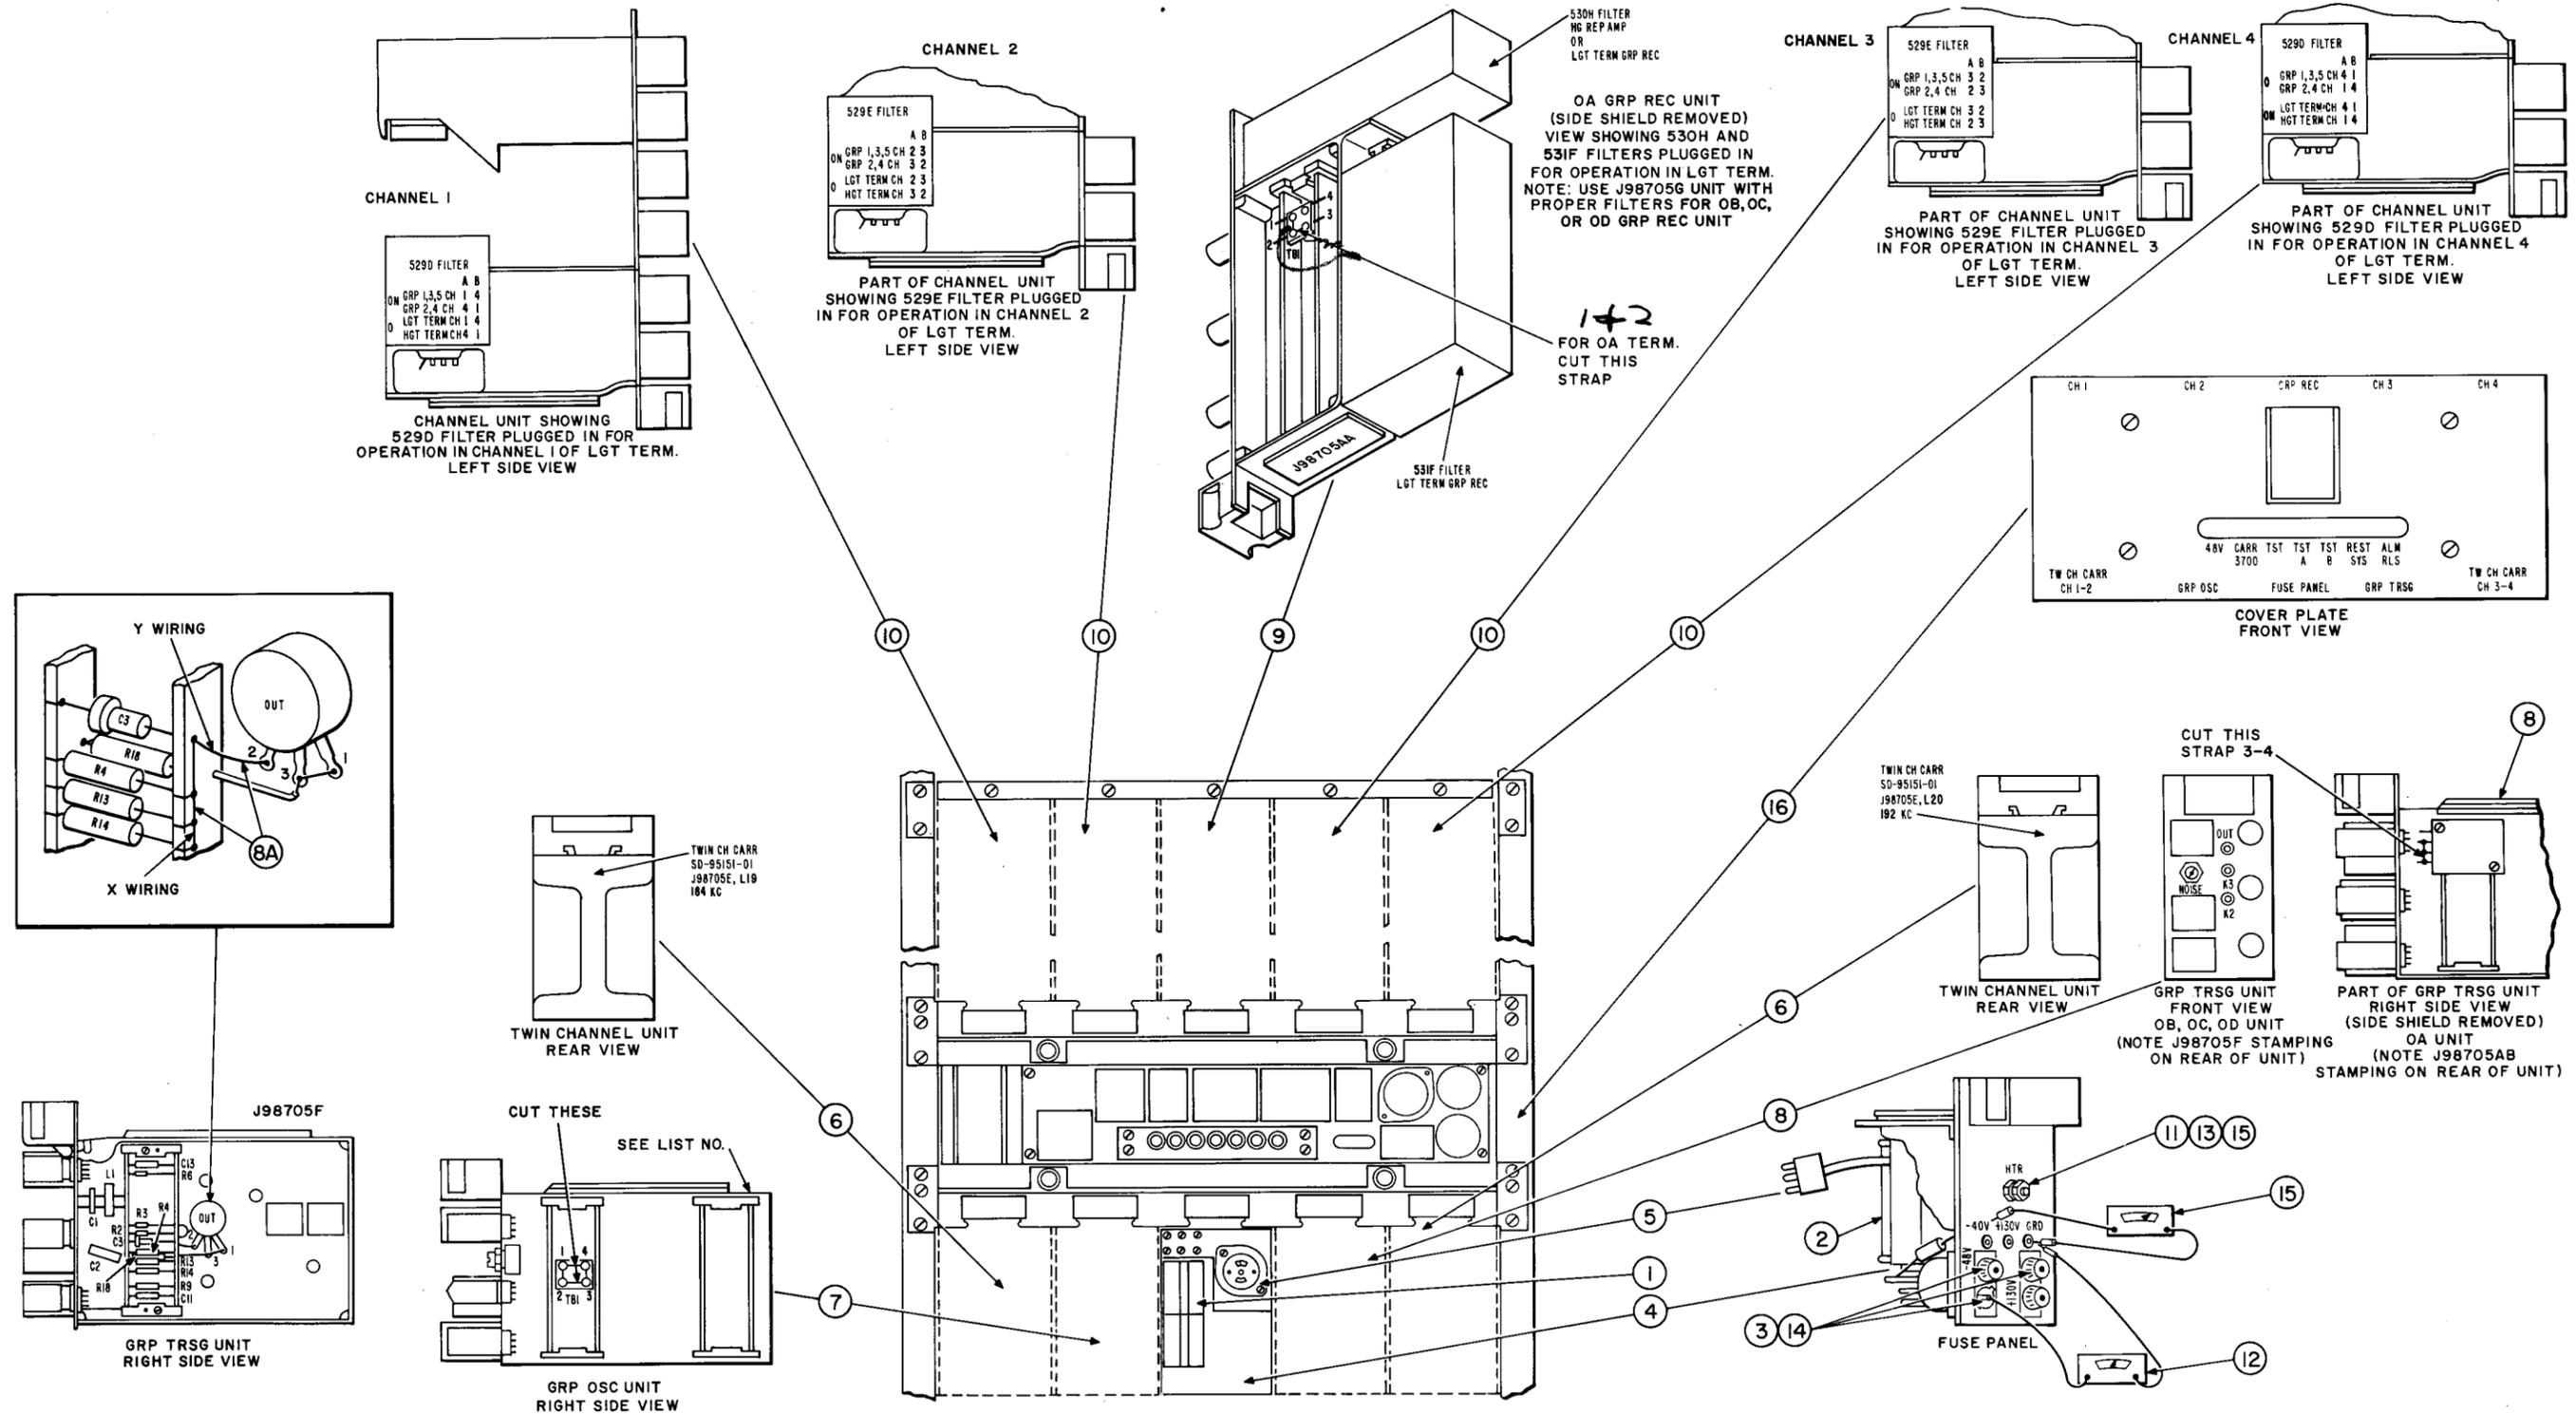
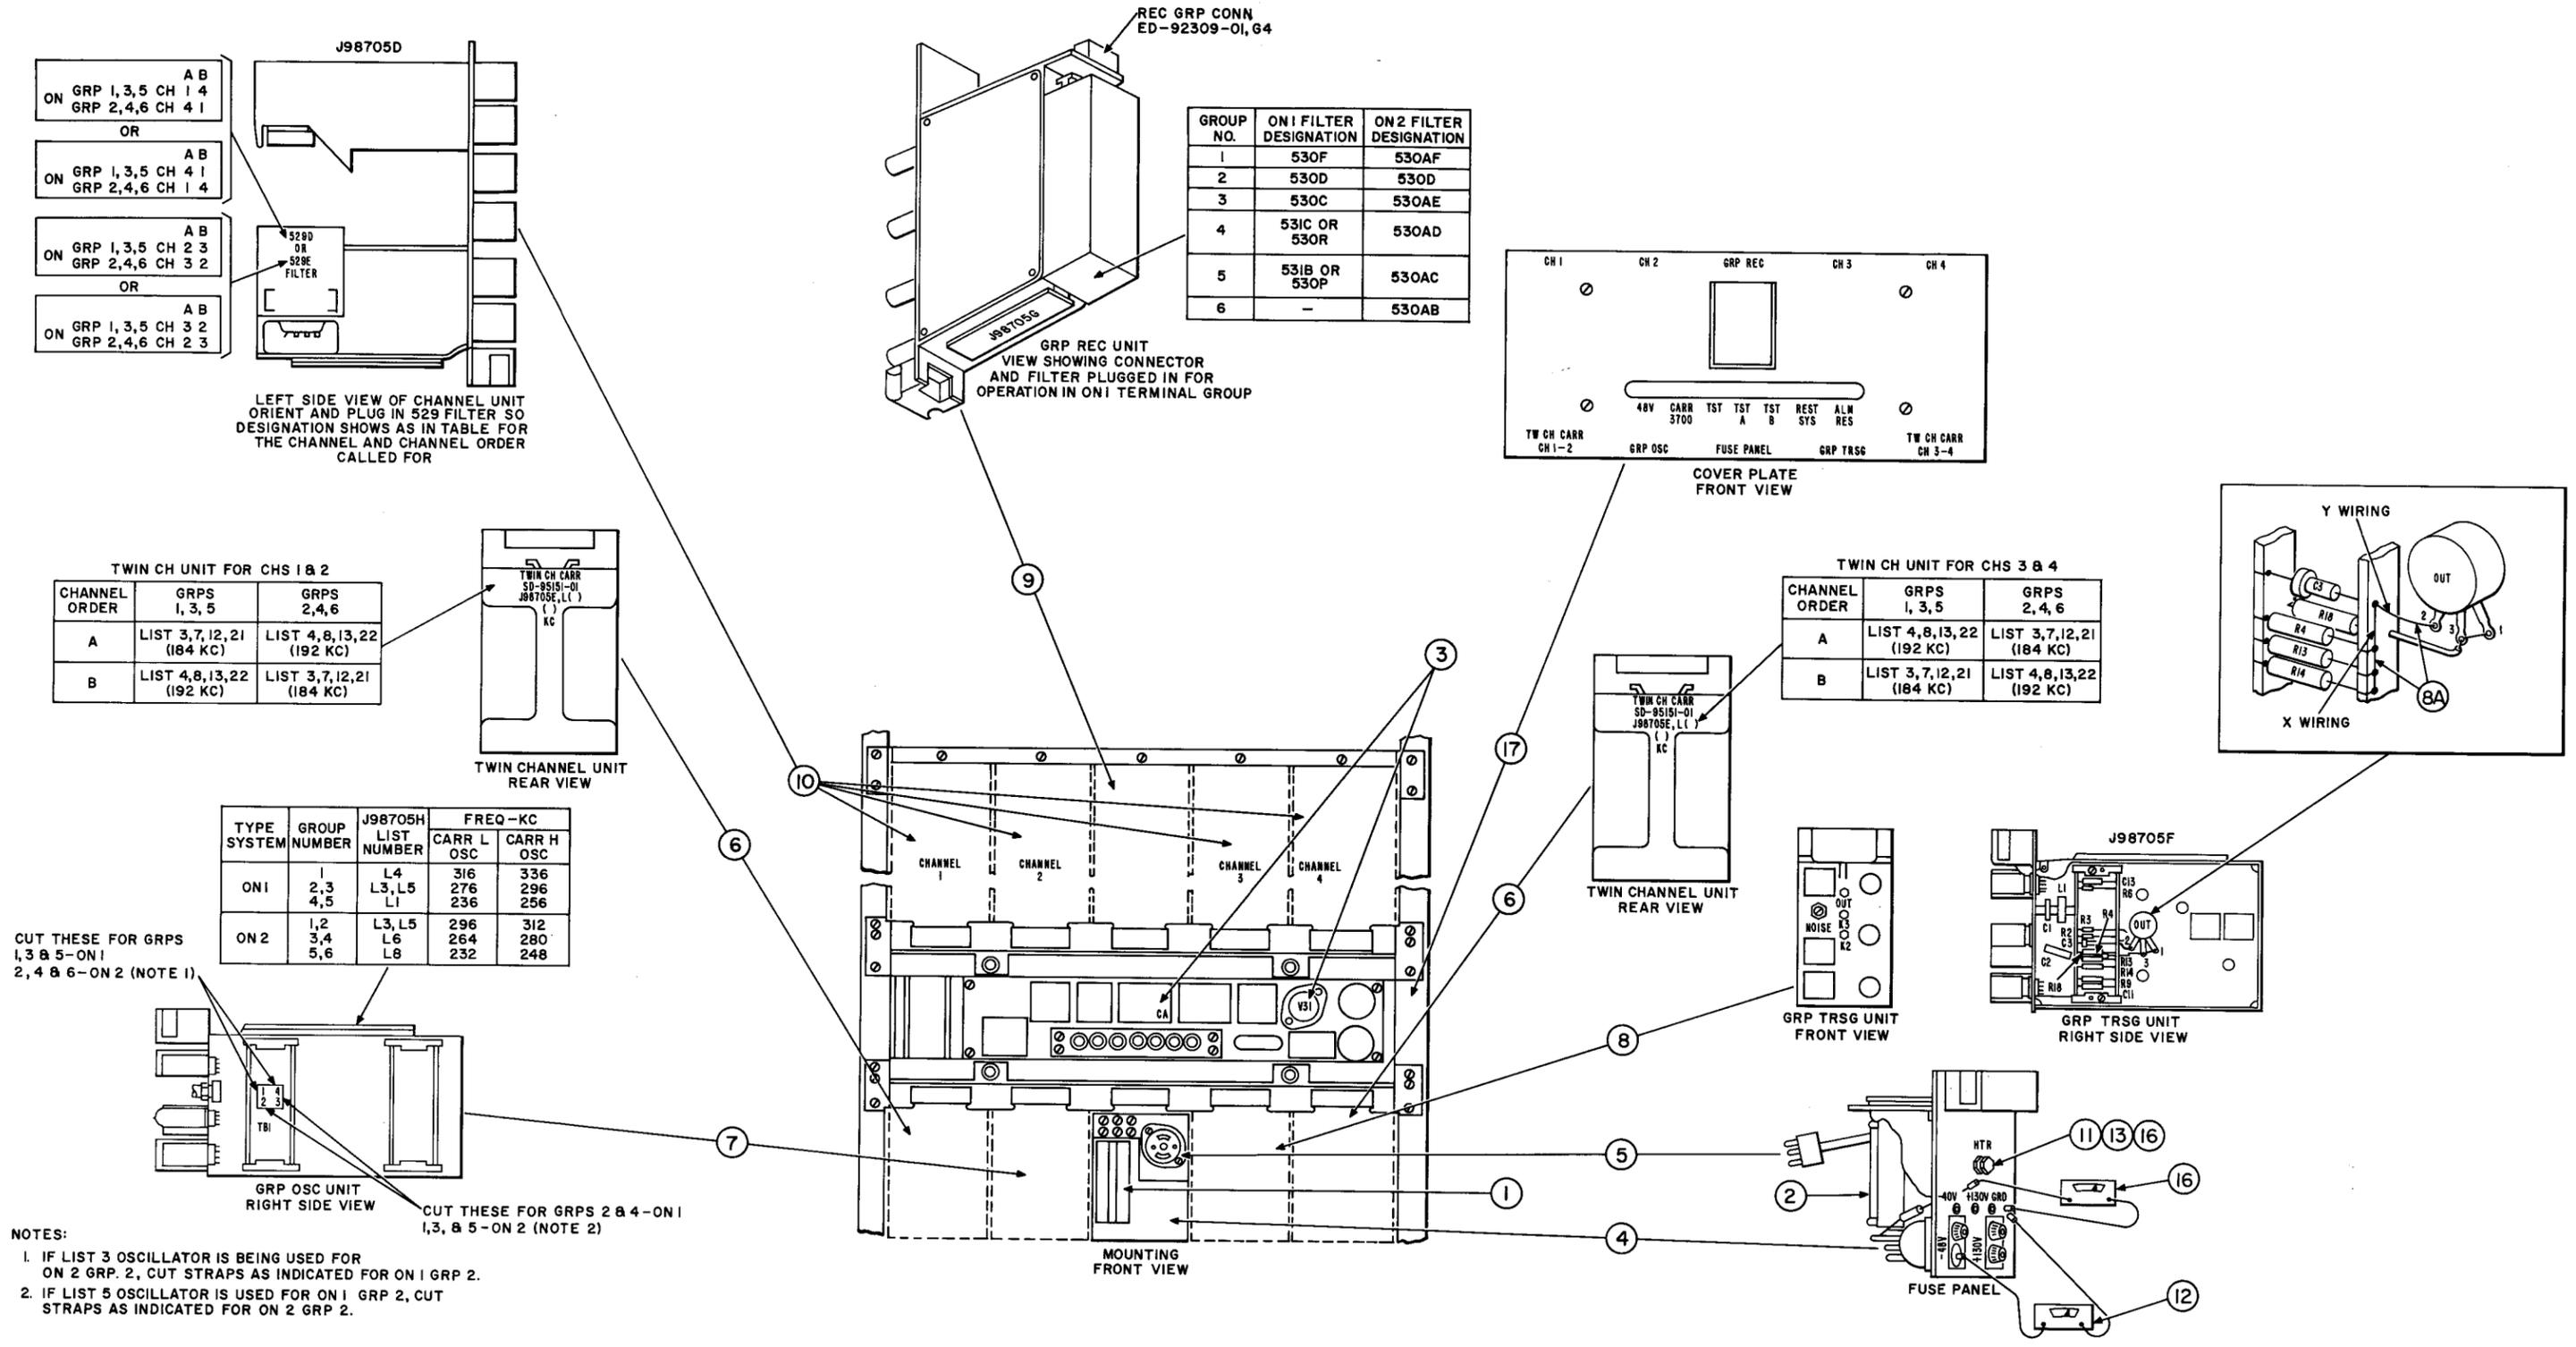

Fig. 2 — Preparation of LGT Terminal
Fig. 3 — Preparation of ON Terminal Group
<p style="text-align: center;">B. Preliminary Information for ON Carrier Installation</p> <p>In ON carrier, the level control oscillator should be used when the system is partially equipped. In such cases, the oscillator should be inserted into the jack on the combining network and oscillator panel when terminal groups are being assembled. Regardless of the number of terminal groups initially installed, the power connections for the oscillator should be made to provide for possible future changes.</p> <p style="text-align: center;">C. Use of Attached Figures</p> <p>This section, in addition to providing step-by-step procedures for preparing a terminal group for service, provides detailed figures keyed to the procedures. Fig. 1 illustrates a complete O carrier high-group transmitting (HGT) terminal. Fig. 2 illustrates a complete O carrier low-group transmitting terminal. Fig. 3 illustrates an ON terminal group. The following example is used to demonstrate the use of the figures.</p> <p>Example: Step 7 states that the GRP OSC unit be placed in the position indicated on the figures and that straps be cut in accordance with the figures. This procedure is illustrated in the figures and keyed (⑦) back to the procedural step. As shown in Fig. 1 for O carrier, it is necessary to cut the straps between terminals 1 and 2 and between terminals 3 and 4 when an HGT terminal is being prepared. Fig. 3 shows, for ON1, that it is necessary to cut the straps between terminals 1 and 2 and 1 and 4 for groups 1, 3, and 5. For groups 2 and 4 the straps between terminals 2 and 3 and between 3 and 4 should be cut.</p> <p style="text-align: center;">D. Tests and Procedures</p> <p>1 Check that terminals 17 and 18 of terminal strip are strapped together as follows:</p> <p>O carrier: strapped together on OA and OB terminals and not strapped for OC or OD terminals.</p> <p>ON carrier: strapped together for groups 4 and 5 of ON1 or for groups 4, 5, and 6 for ON2 and not strapped for groups 1, 2, and 3. Check that strapping between terminals 57 and 59 and between 58 and 60 is removed.</p> <p>2 Remove strap across R23 in fuse panel if only 1 or 2 channel units are used and the average 48V battery voltage is 47 volts or higher.</p> <p>3 Block the CA relay nonoperated with the 136B or 508A tool and remove the 313C tube V31. This procedure prevents the terminal 48V supply fuse from being blown during certain signaling testing conditions which are specified for line-up tests. (Blocking the relay prevents 48V battery from being applied to the E and M leads of channel 1, which would normally occur during an alarm condition.) The 313C tube is removed to prevent damage to it which would be caused by blocking the CA relay nonoperated for long periods when there are no received carriers.</p> <p>4 Remove fuses from fuse panel and place the fuse panel part way into the position as indicated in the figures.</p> <p>5 Connect the power plug to the receptacle and finish sliding the fuse panel into position. Be sure the cord is free from adjacent wires when the unit is being inserted.</p> <p>Caution: Some of the plug-in units are equipped with shields. These shields are provided in order to minimize crosstalk, damage to the components, or danger to personnel working around the units. It is important that the shields be replaced properly whenever they have been removed for any reason.</p>